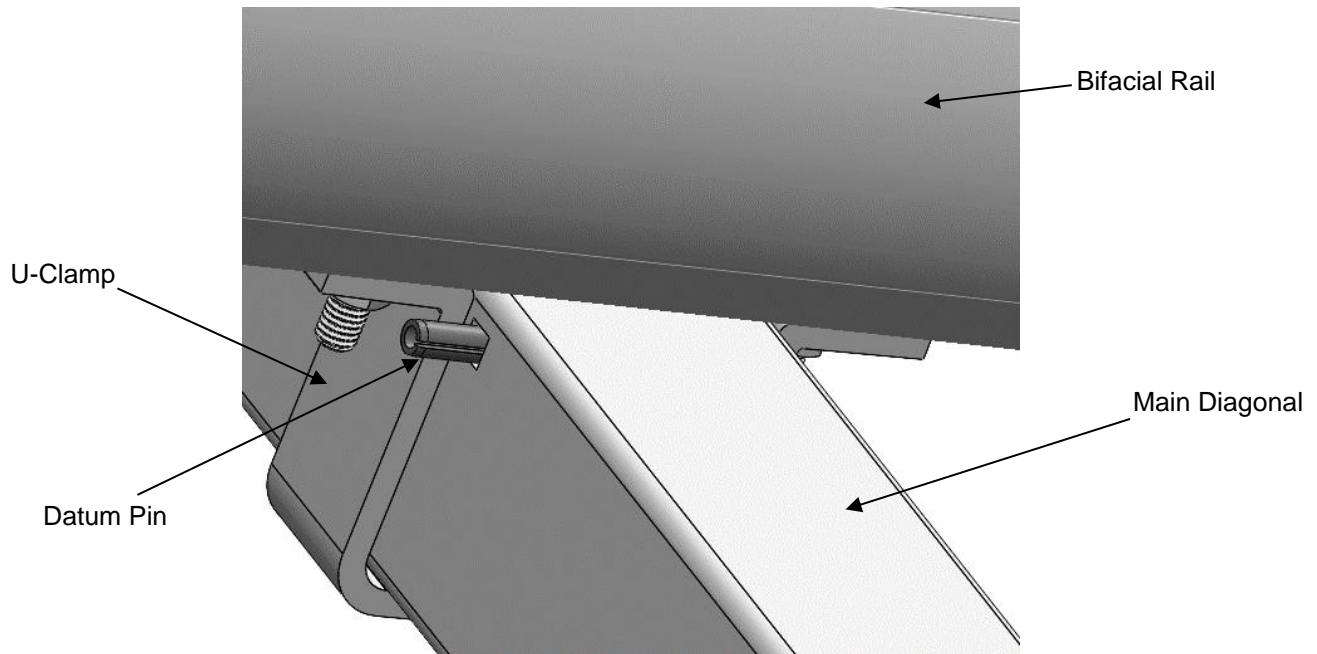

Figure 12: U-Bracket Placement
- d. Ensure that the rail and U-Bracket are above the datum pin as shown in Figure 12.